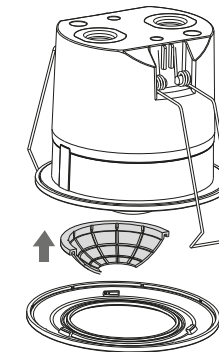

FIG.13
4.3.2 Fixing lens shield: There is circular hook on the back of the decorative frame and the lens shield is designed with a circular groove. The lens shield can be fitted by joining the groove of lens shield with its corresponding hook on the decorative frame (See FIG.13).